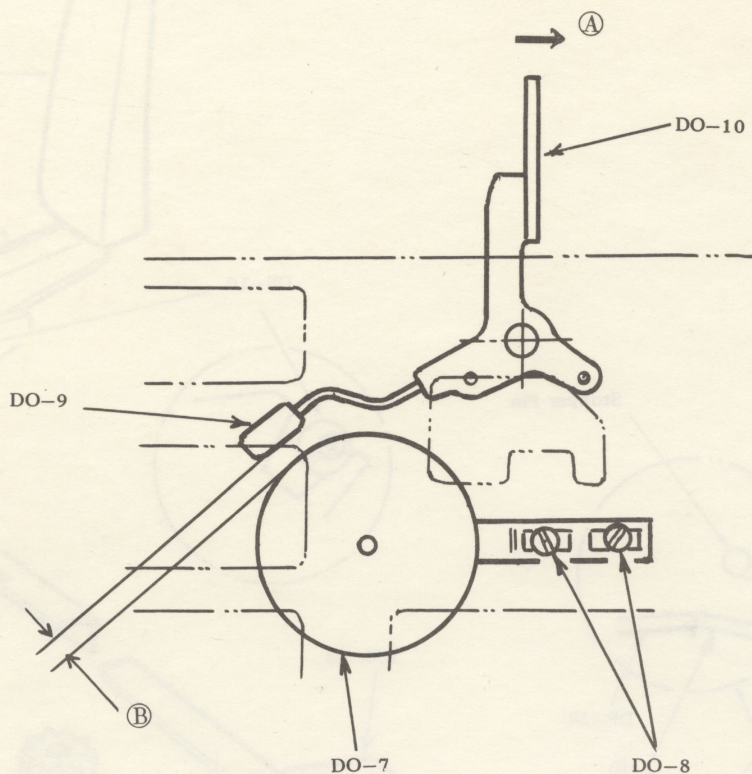

Fig. 85
As Carriage moves to the left direction, DR-1 (Margin Stopper: right) hooks DO-10 (Bell Hammer Holder) and moves to the (A) direction and the engagement between DR-1 and DO-10 will be released at 10 to 7 characters prior to the position where Margin Stop is made, resulting DO-9 (Bell Hammer) strikes DO-7 (Warning Bell). (Fig. 85)
- (1) Adjust the clearance (B) between DO-9 and DO-7 to obtain a clear sound by changing the position of DO-7 with loosening DO-8 (Screw). (Fig. 85)
- (2) Adjust the numbers of typed characters from ringing DO-7 to Margin Stop to obtain 6 to 8 characters for Pica type and 7 to 9 characters for Elite type by bending DO-10. (Fig. 85)